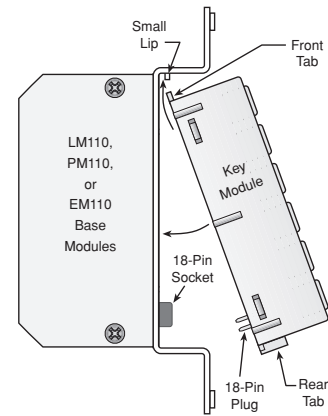

Fig. 13 Key Module Assembly to Base Module
6. Mount the completed key module into the PM110 (or LM110 or EM110). Place the **Front Tab** on the module under the **Small Lip** of the PM110. Align the **18-pin plug** with the **18-pin socket** and carefully push into place. See **Fig. 13**.